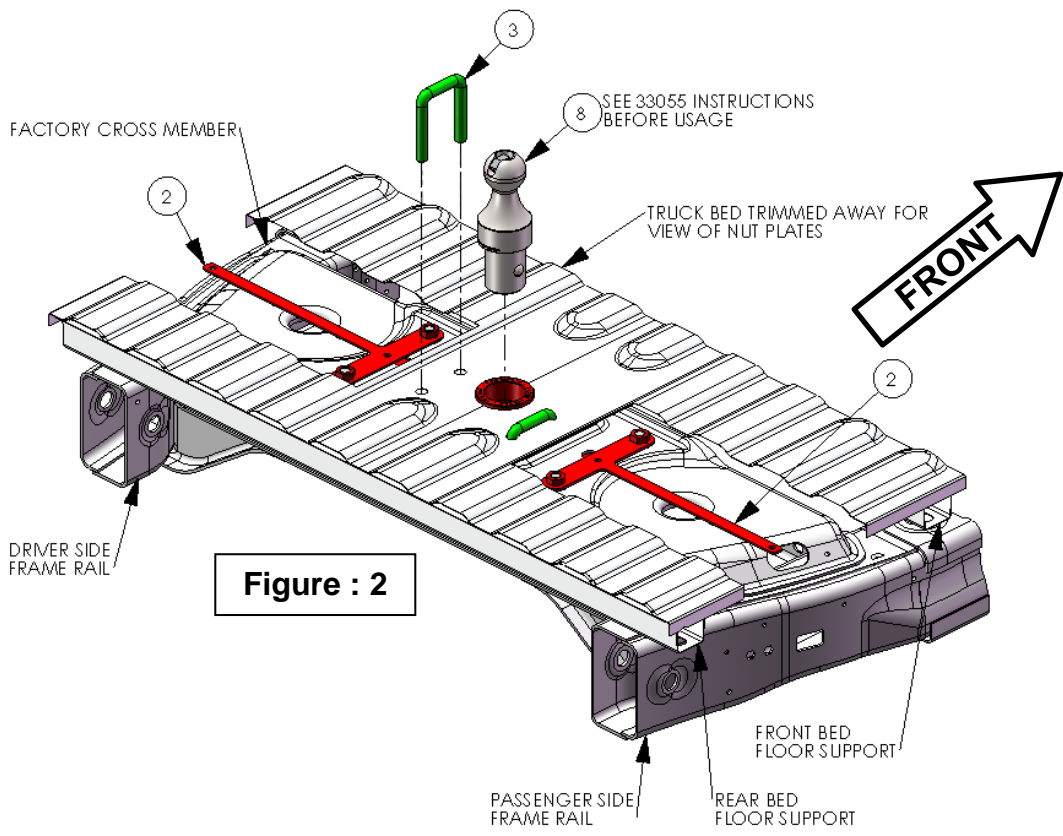

Figure : 2
- Slide one nut plate (#2) in from each wheel well on top of rear crossmember. This can be done without removal of the liners. Align the nut plates (#2) bolt holes from bottom of truck with holes in the factory crossmember. (See Figure 2). **Note: Before the nut plate (#2) install, run flanged head bolts (#7) into nut plates (#2) to ensure clean threading.**